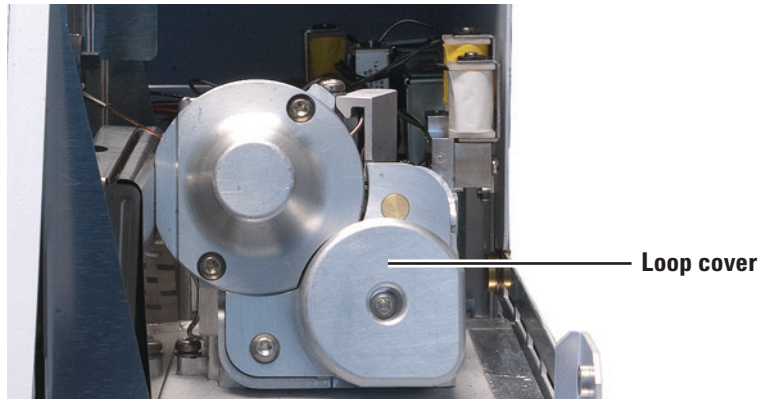

Figure 10 Loop cover
- 4 Completely loosen the T-20 Torx captive screw on the loop cover (Figure 10).